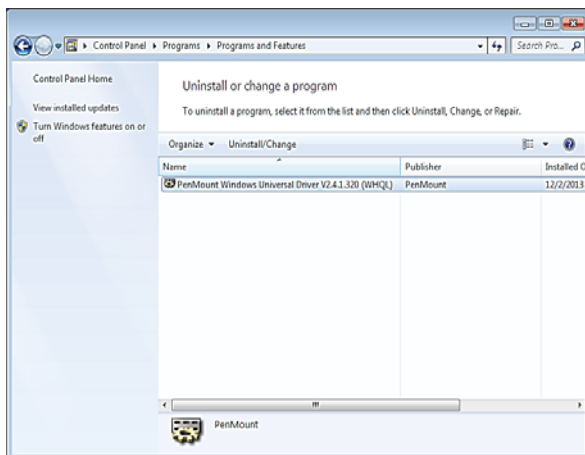

Fig.9
Step 1: In “Control Panel”, choose “Uninstall or change a program”. Find “PenMount Windows Universal Driver V2.4.1.320 (WHQL)”, and click “Uninstall/Change” (Fig.9).